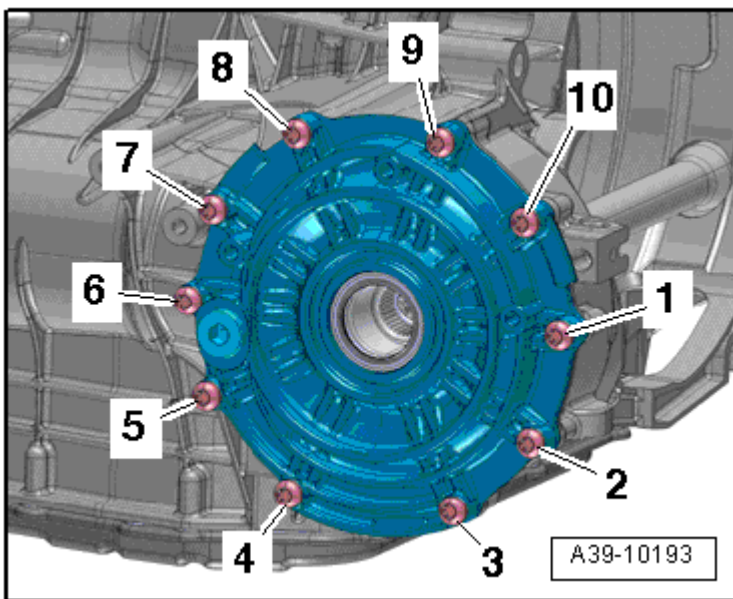

Fig. 23: Tightening Specification And Sequence, Front Final Drive Cover
- Tightening specification and sequence, refer to **Fig. 23**